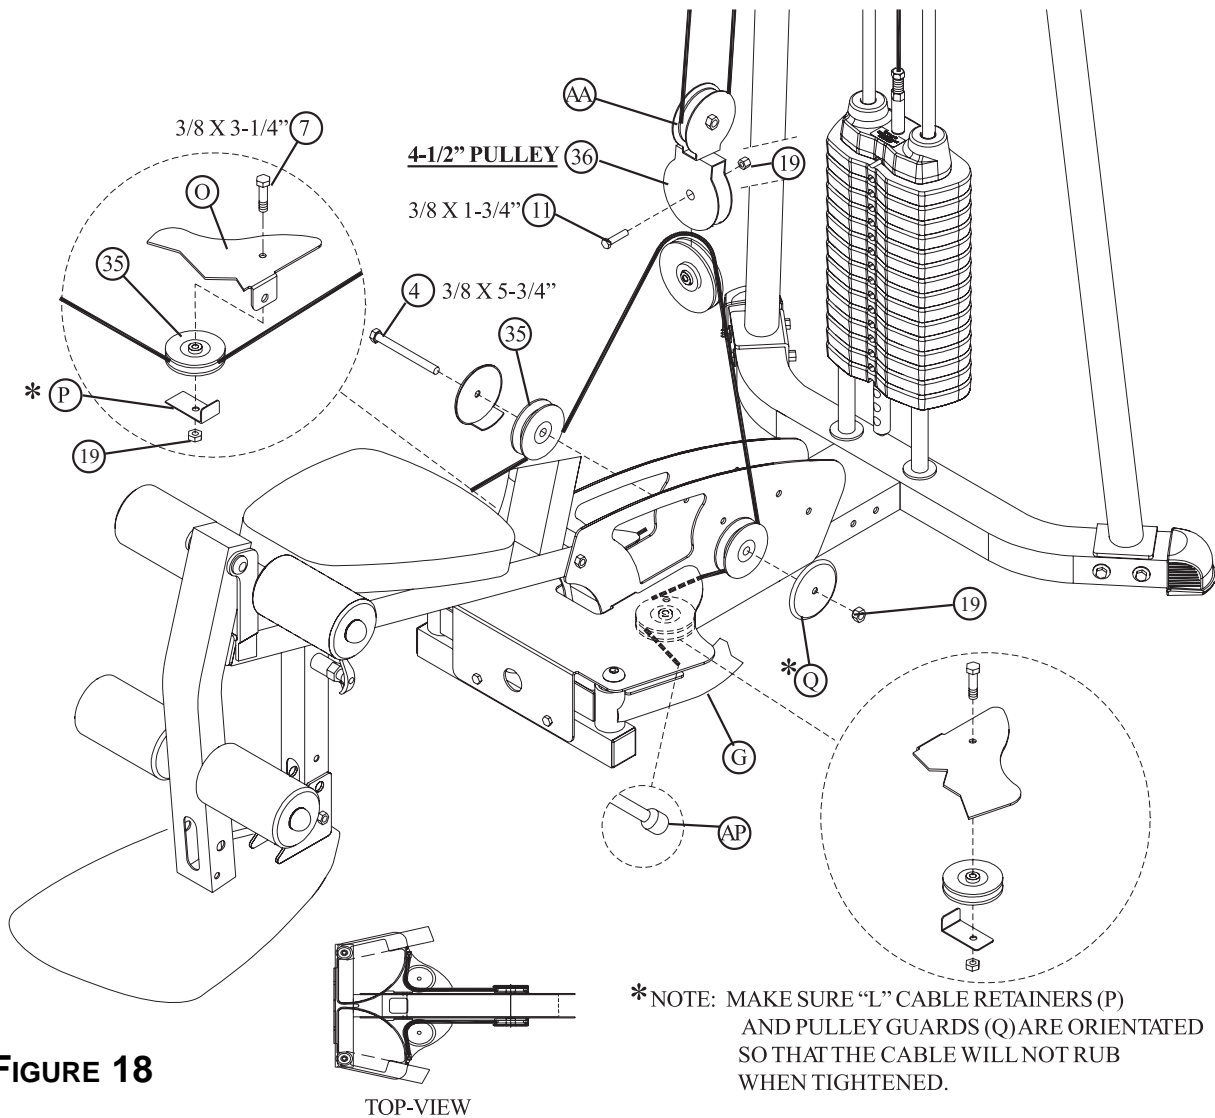

**FIGURE 17**
- Route the LAT CABLE (AM) around one **4-1/2" PULLEY** (36) and assemble the PULLEY to the LEFT (D) and RIGHT (E) BOOM PLATES using one 3/8 X 3-3/4" BOLT (6), one LONG "L" CABLE BRACE (S), one 1" SPACER (24) and one 3/8" SILVER LOCK NUT (19). See FIGURE 17.
- **SECURELY** assemble two PLASTIC SLEEVES (34) to the LEFT (D) and RIGHT (E) BOOM PLATES using two 3/8 X 3-3/4" BOLTS (6) and two 3/8" SILVER LOCK NUTS (19) as shown in FIGURE 17.
- Route the LAT CABLE (AM) around one 3-1/2" PULLEY (35) and assemble two DOUBLE FLOATING PULLEY PLATES (AB) to the 3-1/2" PULLEY (35) using one 3/8 X 1-3/4" BOLT (11) and one 3/8" SILVER LOCK NUT (19). See FIGURE 17. (**Note: Make sure the cable runs in the grooves of the pulleys.**)
- Route the LAT CABLE (AM) over two 3-1/2" PULLEYS (35) and assemble the PULLEYS to the LEFT (D) and RIGHT (E) BOOM PLATES using two 3/8 X 3-3/4" BOLTS (6), two SHORT "L" CABLE BRACES (R), two 1" SPACERS (24) and two 3/8" SILVER LOCK NUTS (19). See FIGURE 17.
- Screw the threaded end of the LAT CABLE (AM) into the end of the HEAD PLATE ASSEMBLY (AF). See FIGURE 17.